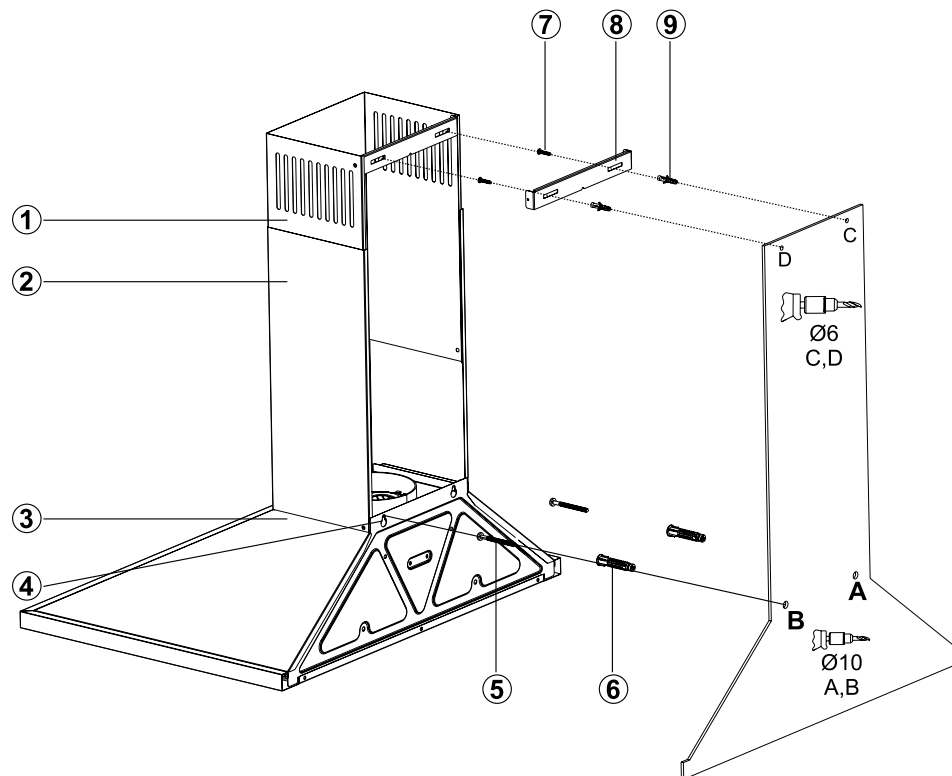

Fig. 12
2. Check the minimum and maximum distance according to workbench and drill points A, B.(Fig. 12)
3. Place Ø10mm pins in drilled A, B points and screw the screws to A+B points leaving 5 mm gap between screw head and the wall.(Fig. 12)